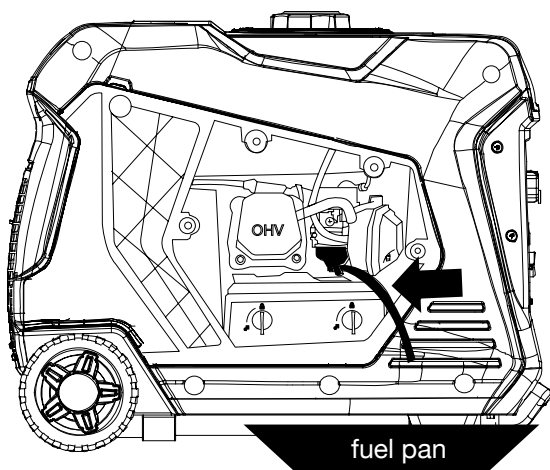

Figure 16: Fuel Drain Hose
2. Locate the clear plastic hose from the float that is extending towards the bottom of the inverter, pull those hose outside the body and place a suitable container under it to catch the drained fuel (see Figure 16).